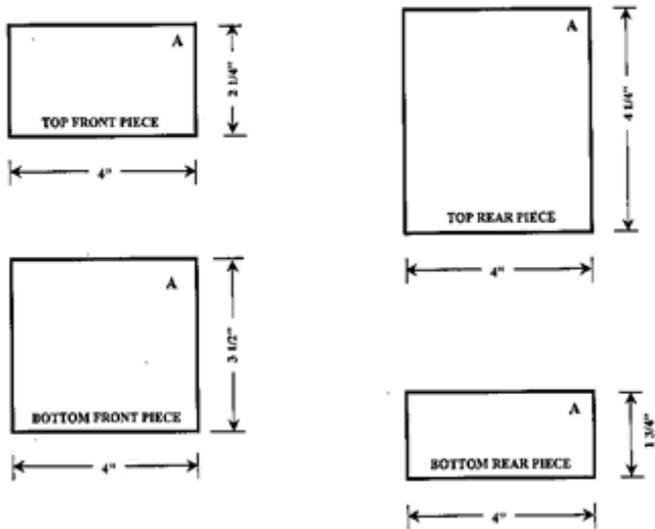

Figure 4 Front & Rear Pieces
2. Cut out the front and rear pieces to the dimensions shown in Figure 4.